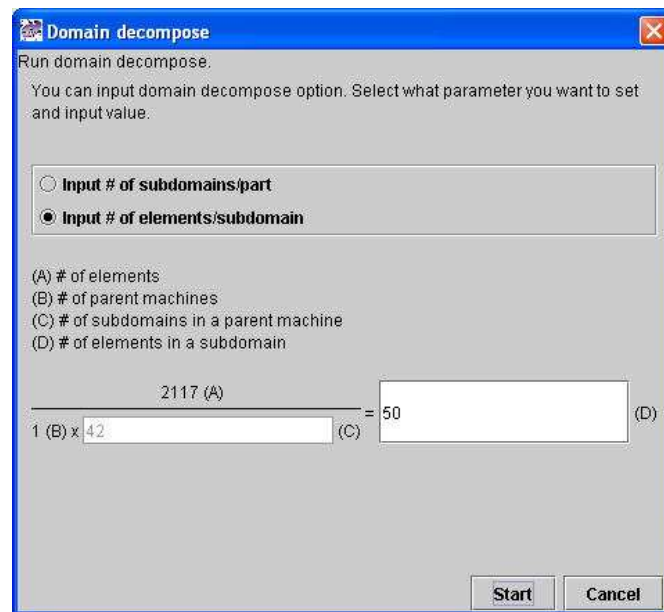
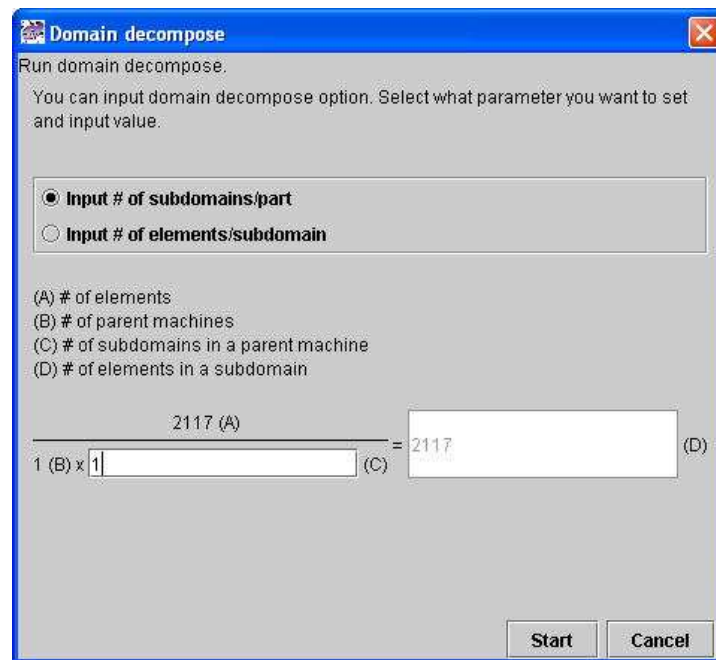

Fig. 6.4-2 Domain decomposition
Fig. 7.4.1 Setting domain decomposition parameter for the CG method
Although domain decomposition was originally required only for parallel analysis, please understand that it is needed even for single CPU analysis according to the characteristics of software ADVENTURE\_Solid. Select “Analysis(A)” > “Domain Decompose(D)” from the main menu (Fig. 6.4-2). There is an option for domain decomposition, However, do not change anything and click “Start” as long as you use BDD solver, which we recommend.
When using the domain decomposition function, care must be taken if you choose the CG method as the solver. The number of subdomains per part is to be one. In the dialog displayed when you select “Analysis(A)” > “Domain decompose(D)” from the main menu (Fig. 6.4-2), select the radio button “Input # of subdomains/part”. Then the item (C) i.e. the number of subdomains in a parent machine switches from disabled state to enabled state. Enter 1 in the item (C) (Fig. 7.4-1).